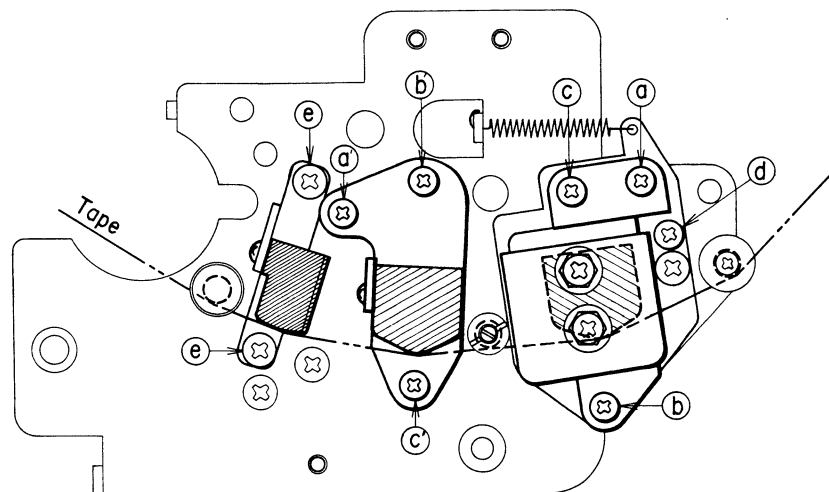

Fig. 6-1
- 1) During Normal Play, adjust screws (a') (b') (c') (Fig. 6-1) so that the upper edge of the upper core of the Playback and Recording Head is the same height as the upper edge of the tape.
During Reverse Play, adjust screw (d) (Fig. 6-1) so that the lower edge of the lower core is the same height as the lower edge of the tape.